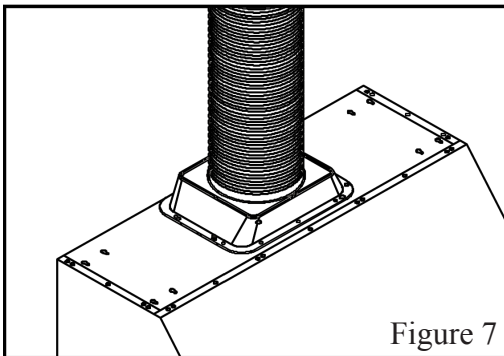

Figure 7
3. Use 7" round steel pipe (follow building codes in your area) to connect the exhaust on the hood to the ductwork above. Use silver tape or duct tape to make all joints secure and air tight. Refer to Figure 7.